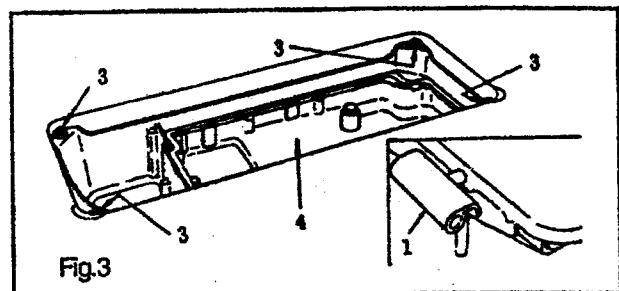

Fig.3
- 3) Fit hinge ① into the opening in the machine bed, and fit the machine head to table rubber hinge ② before placing the machine head on cushions ③ on the four corners.(Fig.3,4)